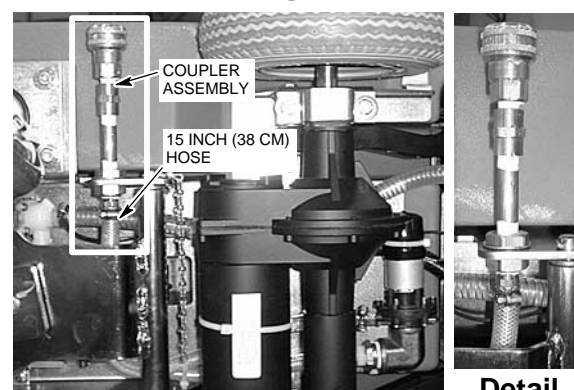

Fig. 3
7. Install hose coupler assembly to frame as shown. Connect 15 inch (38 cm) solution hose to hose barb, use hose clamp provided (Fig. 3)